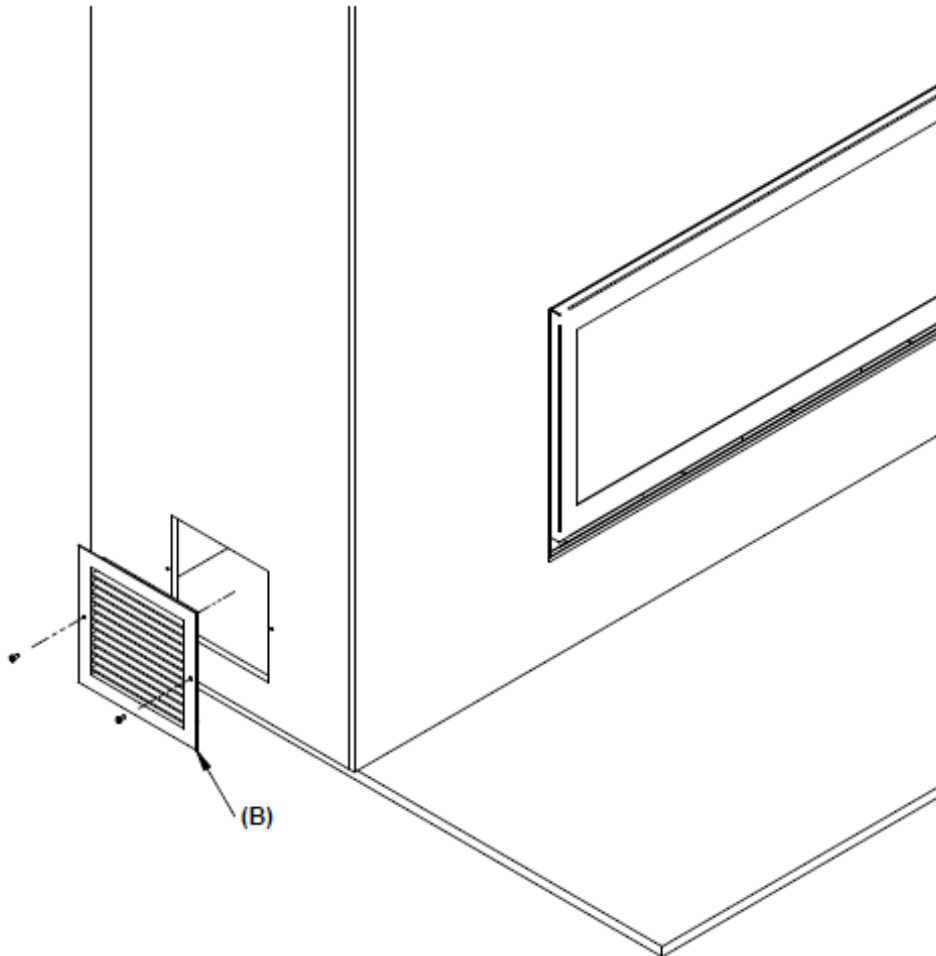

Figure 12 : Air intake grille installation
1. Drill holes in the finishing material following dimensions on Figure 12.
2. Secure the grille (B) with 2 #10 screws of length 5/8in or the appropriate screw depending on the finishing material used (not included)